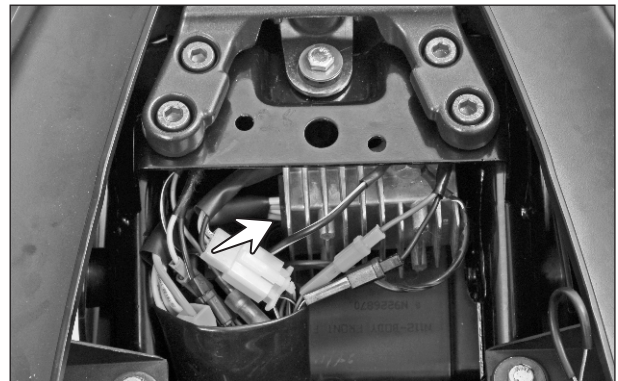

Fig. 5.21
- The RR unit (regulator cum rectifier) is fitted below the rear seat assembly near the tail lamp assembly. (Fig. 5.21)